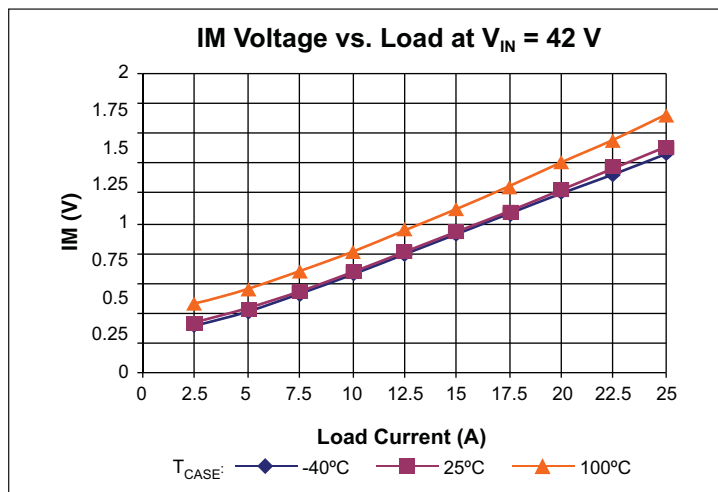

Figure 8 — IM voltage vs. load
**Current Monitor (IM)** pin provides a voltage proportional to the output current of the VTM module. The nominal voltage will vary between 0.36 V and 1.86 V over the output current range of the module (See Figures 8–10). The accuracy of the IM pin will be within 25% under all line and temperature conditions between 50% and 100% load.